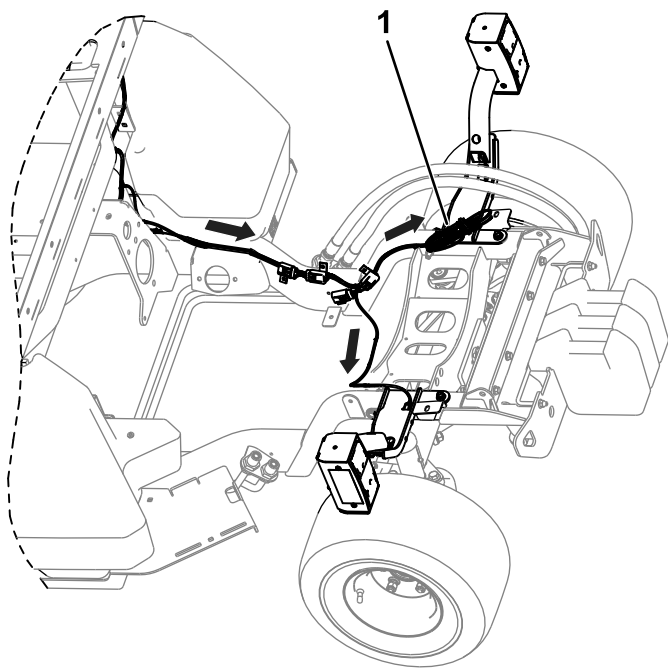

Figure 30
10. Use a cable tie to coil the remaining connector together (Figure 30).